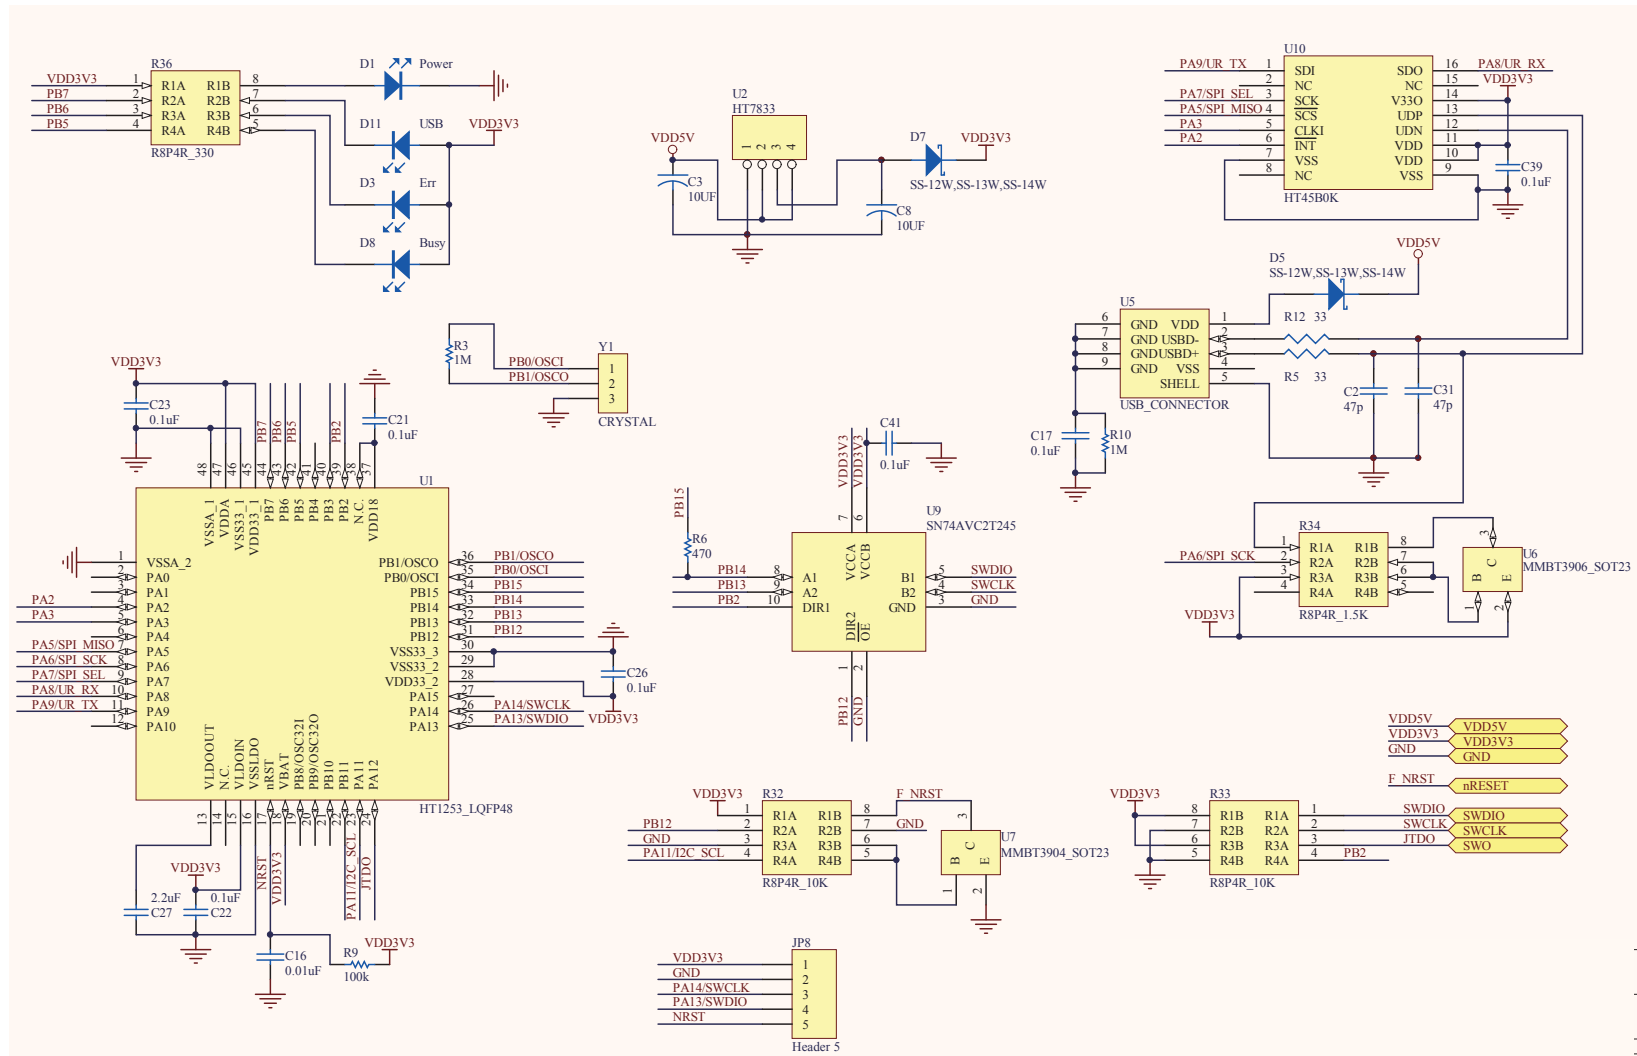

Figure 11. e-Link32 Lite
- Figure 11 Includes the e-Link32 Lite.